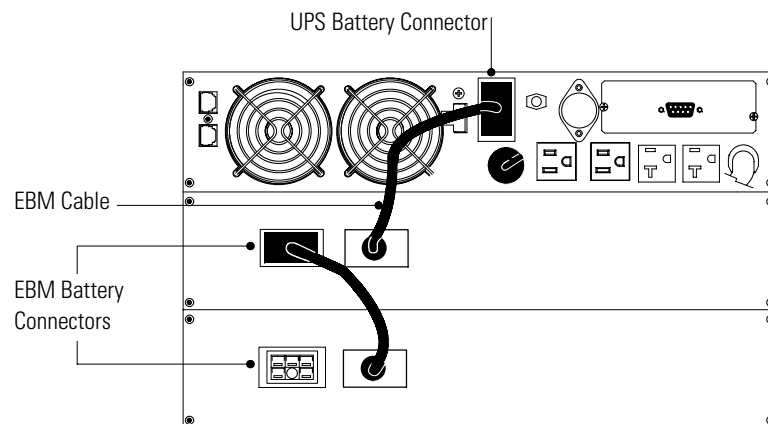

Figure 11. Typical EBM Installation (120V UPS Model Shown)
2. Plug the EBM cable into the UPS battery connector (see Figure 11).